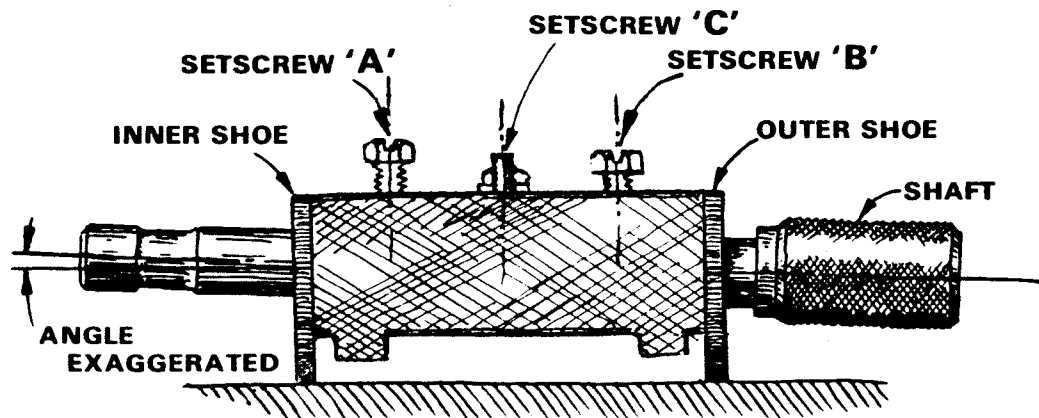

FIG. 1
1. Check Pick-off as received . . . it should look like Fig. 1, with knob lower than the other end of shaft. If not, loosen setscrew "A", and tighten "B".